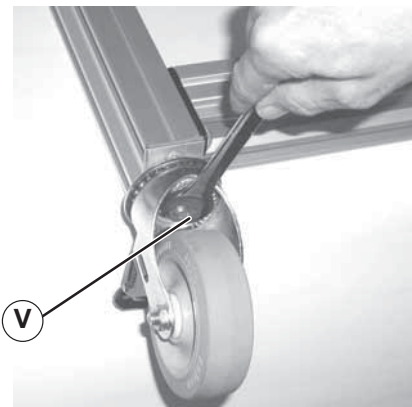

Figure 7
- Tighten lock nut (Figure 7, item V) to 30 ft-lb (40 N-m).